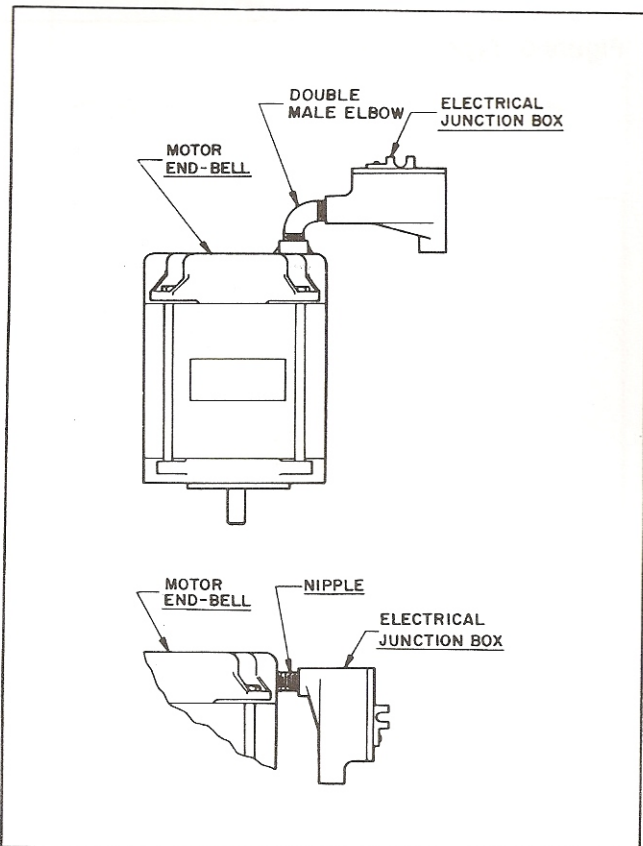

Figure 4. Junction Box and Connecting Nipple
A. Explosion Proof Motors (Figure 4): The following safety requirements are required when installing and using Explosion Proof Motors:
2. Installation of electrical junction boxes on the motor is extremely important to the electrical integrity of the motor and the electrical wiring system. When installed, the junction box and the nipple connecting the box to the motor should not show any sign of movement. Refer to Figure 4. If there is any movement, **DO NOT PUT INTO SERVICE** until corrected. **USE COULD RESULT IN A SEVERE SHOCK HAZARD.**